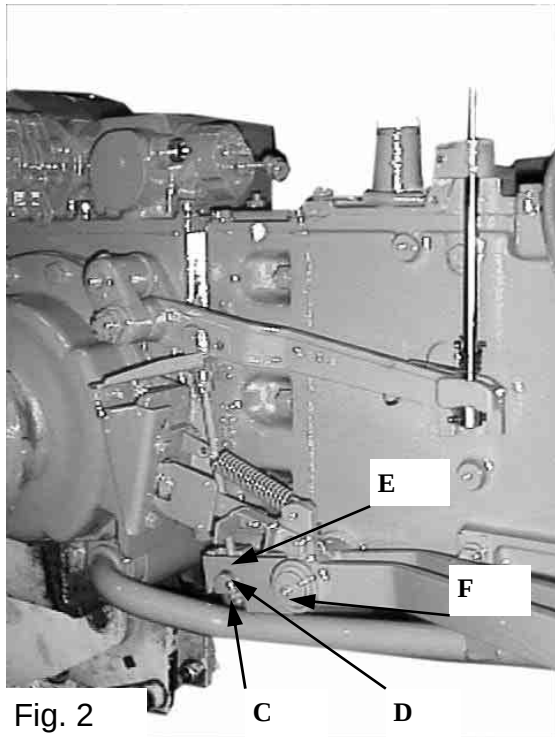

Fig. 2
- use nut C of fig.2 until block D is slightly in contact with lever E.